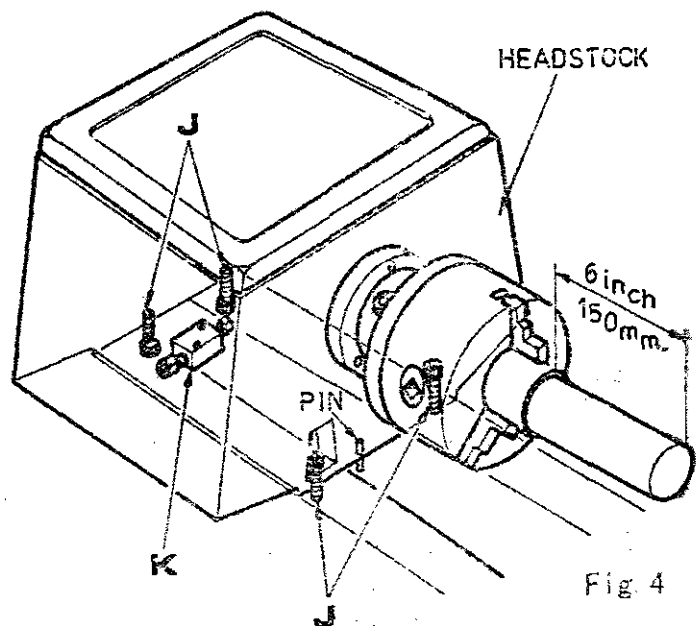

Fig 4
Headstock check: Take a light cut-with a keen tool over a 6 in. (150mm.) length of 2 in. dia. (50mm) steel bar gripped in the chuck but not supported at the free end. Micrometer reading at each end of the turned length (at A and B of Fig.4) should be the same.
To correct a difference in readings, slacken and release the four-headstock hold-down screws (J) shown in Fig.4 and adjust the set-over screw (K) beneath the headstock. Then tighten